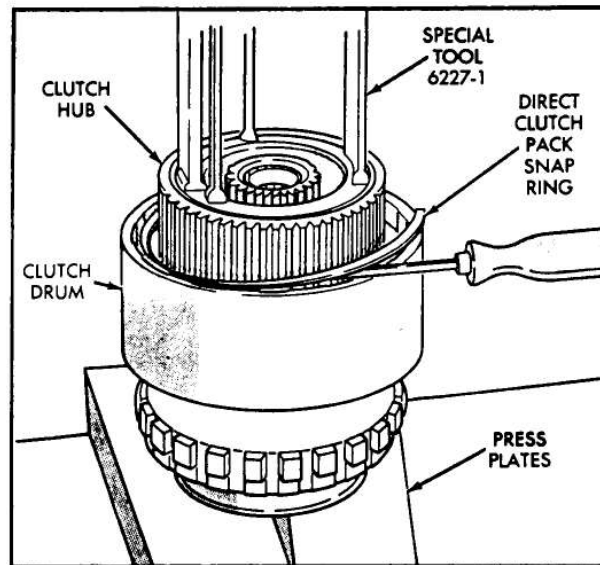

Figure 12
16. Apply pressure slowly, compressing hub and spring far enough to expose clutch hub retaining ring and relieve spring pressure on the clutch pack snap ring. (See Figure 12).
17. Remove the direct clutch pack snap ring as shown in Figure 12.
16. Install completed sun gear assembly in overdrive carrier until fully seated, as shown in Figure 12.